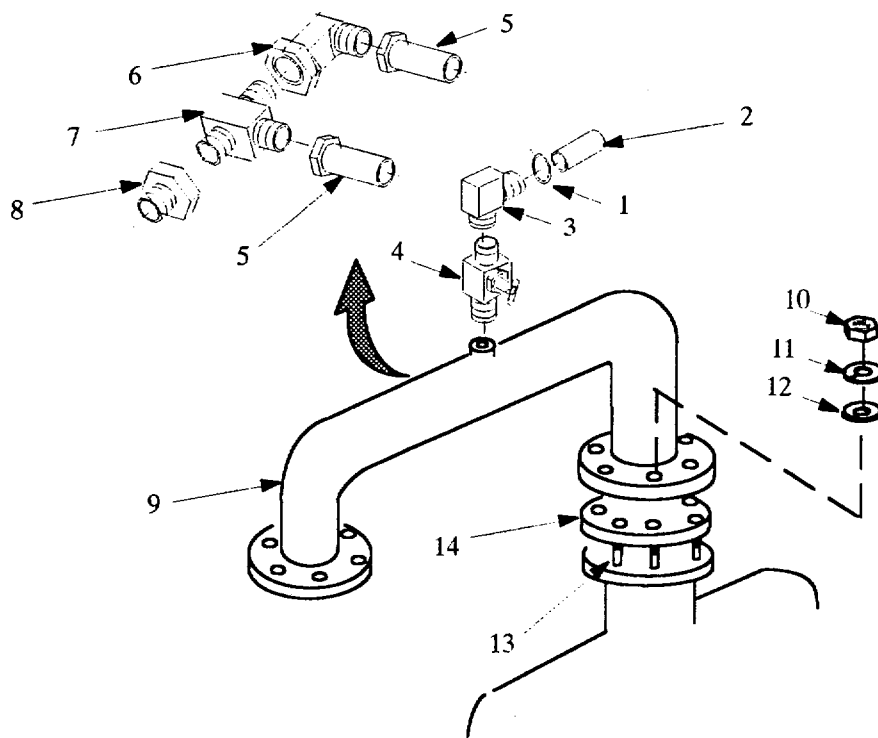

Figure 4-64.1 Discharge Connection Maintenance (Model 350 PAFN).
- a. Loosen clamp (Figure 4-64.1, item 1) and disconnect bleed hose (2).
- b. Remove elbow (3) and vent shutoff cock (4).
- c. Disconnect discharge pressure hoses (5) from elbow (6).
- d. Remove elbow(6). tee(7) and bushing(8) from discharge elbow(9).
- e. Support discharge elbow (9) and remove nuts (10), lockwashers (11) and flat washers (12) from studs (13).
- f. Carefully lift discharge elbow (9) from studs on centrifugal pump.
- g. Remove and discard gasket (14).
- a. Position gasket (Figure 4-64.1, Item 14) onto studs (13) on centrifugal pump.